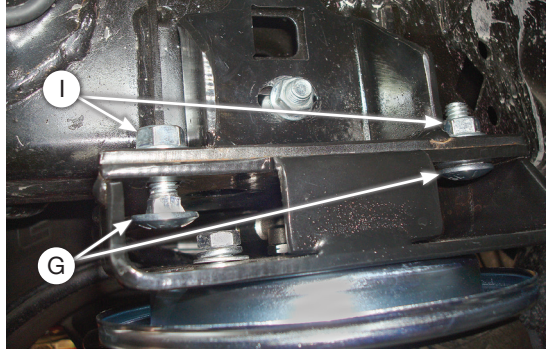

Fig. 19
7. Raise the axle up just enough so that the upper brackets meet the braces. Insert the 3/8"-16 x 1" carriage bolts (G) up through the square holes in the upper brackets and through the braces (Fig. 19). Install the 3/8"-16 serrated flange nuts (I) onto the carriage bolts. Snug the nuts but do not tighten at this time.